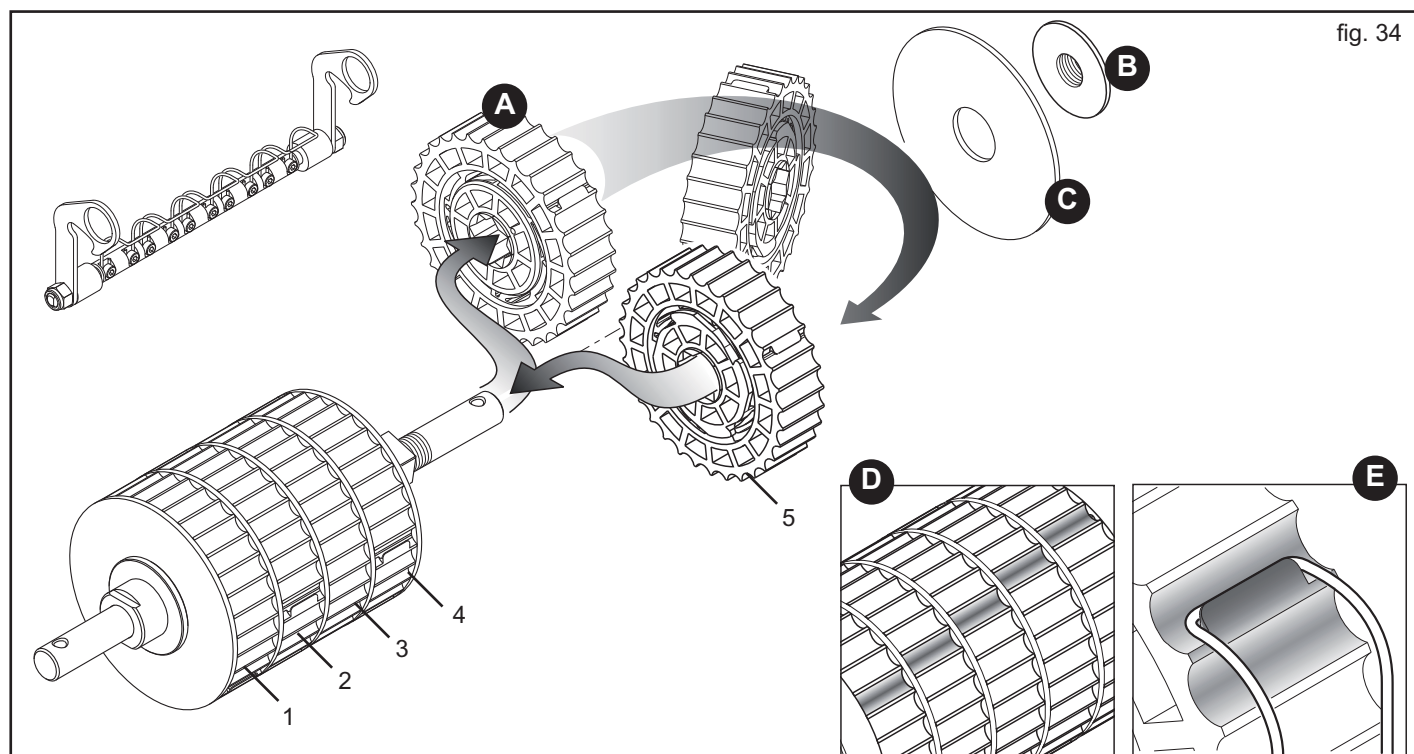

fig. 34
Considering that every section (A, Fig. 34) of the dosing roller distributes 20% of the product contained in roller itself, the number of operating sections can be increased and the gearbox rotation speed to reduce to obtain more homogeneous distribution.
First, take the dosing roller off the machine. Then, unscrew the knob (B, Fig. 34) using the supplied wrench and remove the lock nut (C). Extract the section(s) to be activated and put them back in **their positions** (1-2-3-4-5, Fig. 34) turning them by 180°.
When re-assembling the sections, make sure that during operation the dosing grooves of the active sections are staggered from one another (D, Fig. 34). This will give continuity to distribution. Reposition the lock nut, tighten the knob using the supplied wrench and assemble the roller back on the machine.
Block the cleaning element in the operating position and make sure that the springs hook the previously excluded sections (E, Fig. 34) preventing their rotation and consequently distribution.